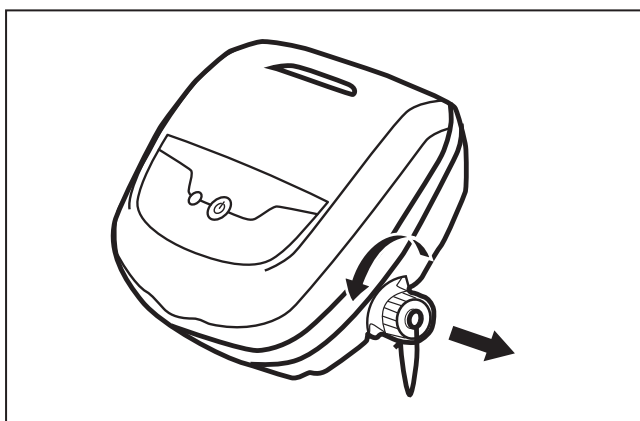

Figure 1. Remove Protective Cap
1. Unscrew the protective cap for the floating cable from the side of the control unit by turning anti-clockwise (Figure 1).